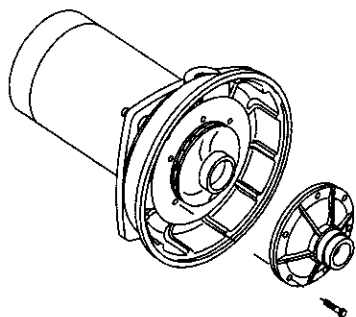

**Figure 12 – Slide Motor Back**
Pump and piping need not be disconnected to repair or replace motor or seal (see Figure 12). If motor is replaced, replace the shaft seal (Key No. 6, Page 11). Keep one on hand for future use.
2. Remove clamp (see Figure 12).
3. Remove pump base mounting bolts. Motor assembly and back half of pump can now be pulled away from pump front half (Figure 12). CAREFULLY remove O-Ring.